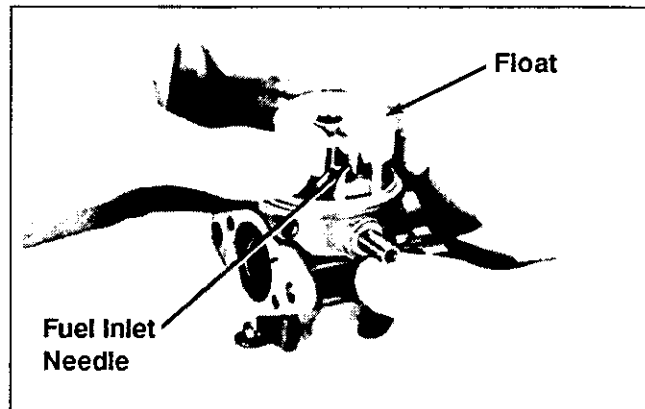

Figure 5-9. Installing Float And Fuel Inlet Needle.
- Insert the fuel inlet needle into the float. Lower the float/needle into the carburetor body. See Figure 5-9.